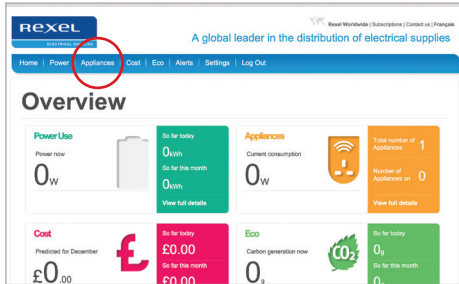

fig.10
2. Click on the Appliances tab (fig.10).